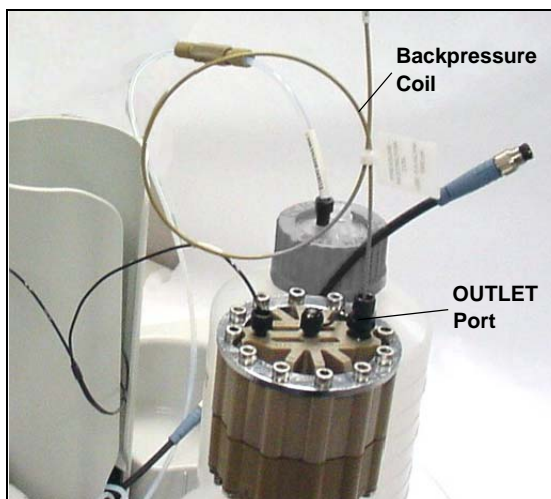

Figure 5-41. Dionex EluGen Cartridge Outlet Connection for Conditioning the Cartridge
15. Connect one end of this coil to the Dionex EluGen cartridge **OUTLET** port (see Figure 5-41). Leave the other end of the coil unconnected.